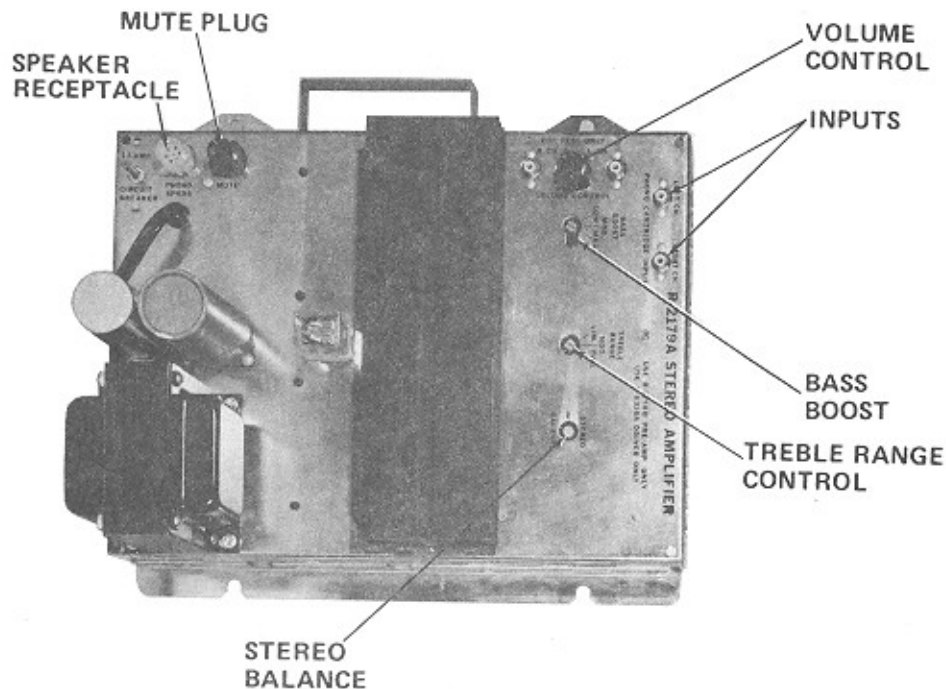

FIGURE 2-29. 64 WATT STEREO AMPLIFIER COMPONENTS
**Preamplifier and Amplifier (see figure 2-29).** The preamplifier unit amplifies phonograph cartridge output and drive the speaker system. The latest concepts in silicon transistor circuitry are designed into the 64-watt stereo system. It delivers a full 32 watts rms power per channel. Its wide frequency response and low distortion assure good record reproduction. The unit incorporates automatic volume control (AVC) and automatic quality control (AQC).